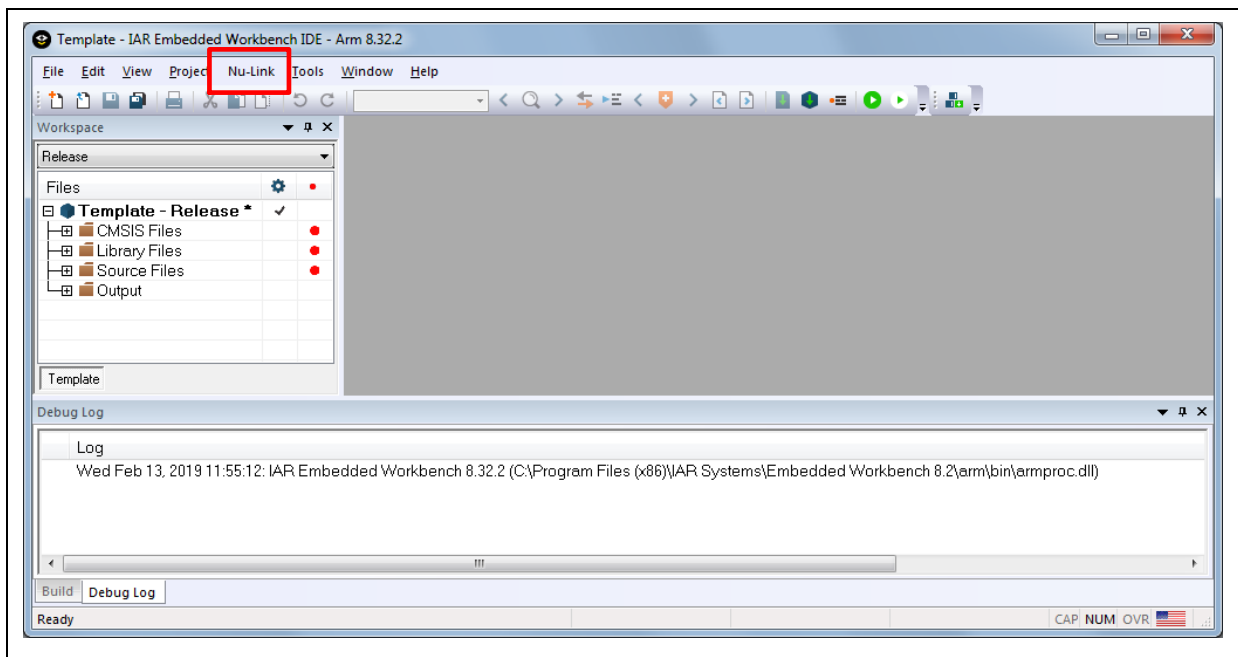

Figure 4-15 IAR EWARM Window
2. Make sure the toolbar contain “Nu-Link” item as shown in Figure 4-15.